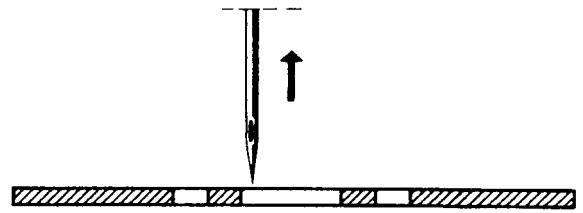

Fig. 51
- Turn the handwheel in sewing direction, until the needle rises on the left-hand side and the needle point is positioned exactly on the surface of the needle plate (fig. 51).